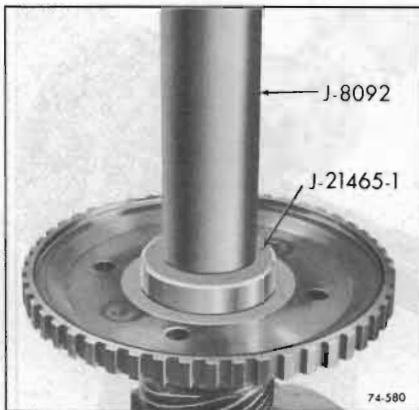

Figure 74-580
- b. Using Tool J-21465-1 install bushing. See Figure 74-580.